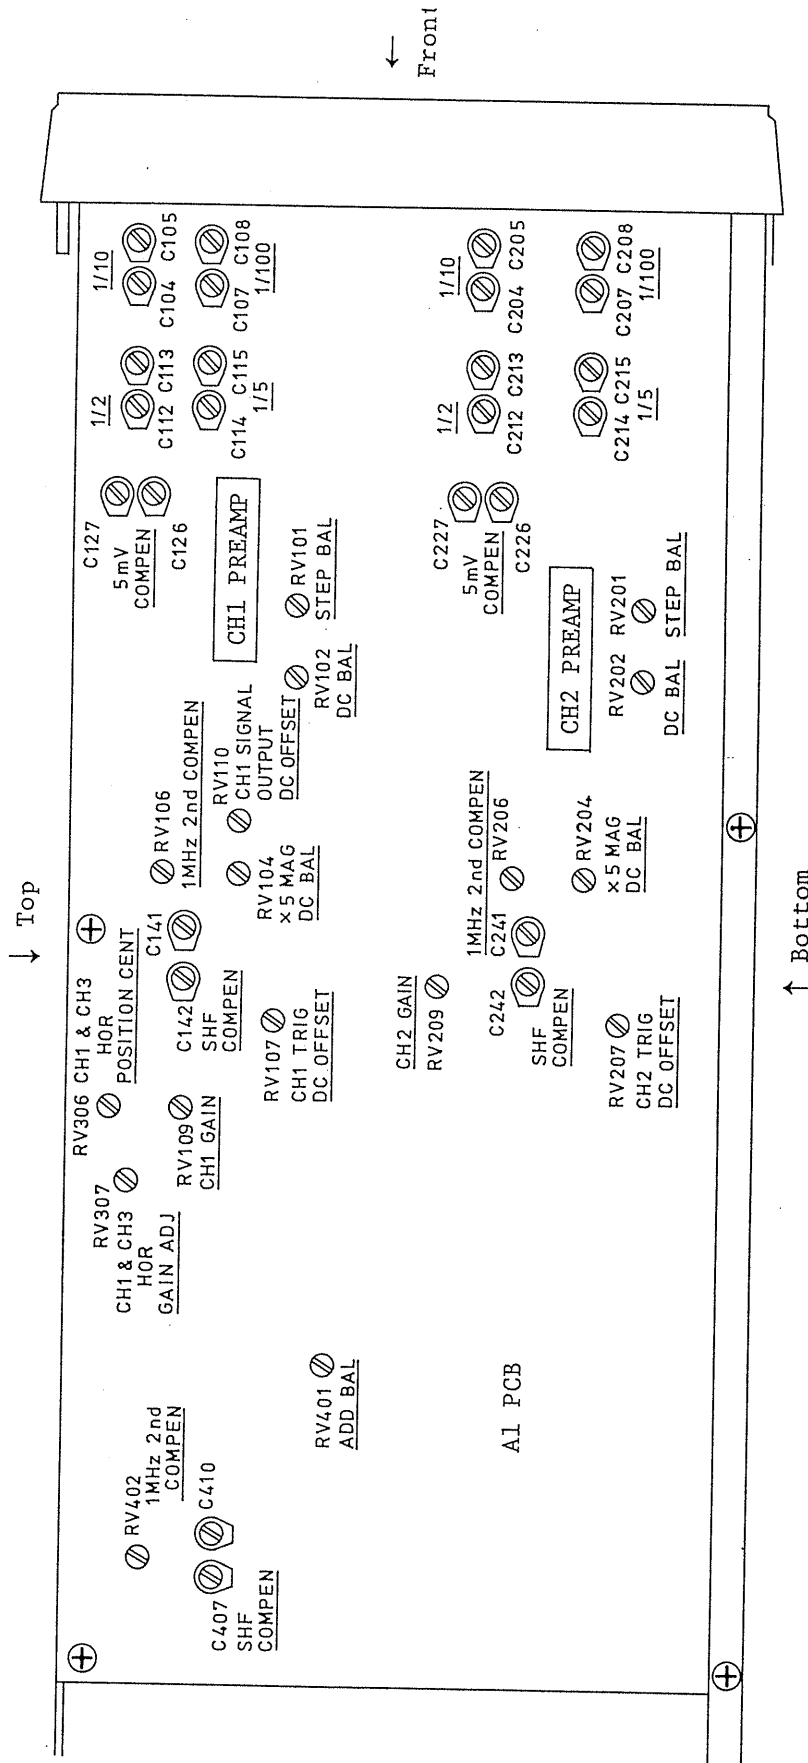

Figure 7-11 (left hand side view)
- (1) Apply the CH1 signal output to the CH2 input terminal.
- (2) Display the CH2 input signal on the screen and set the VOLTS/DIV switch at the 10 mV range.
- (3) Changing the CH2 input coupling switch between GND and DC, so adjust the CH1 SIGNAL OUTPUT DC OFFSET control RV110 (Figure 7-11) that shift of the trace becomes zero.
- (1) Apply a sinusoidal signal of approximately 1 kHz to the CH1 input terminal and set the AC-GND-DC switch at AC.
- (2) Set the VERT MODE switch at CH1, set the INT TRIG switch at CH1 or ALT, and display the signal with an amplitude of 8 DIV on the screen.
- (3) Set the COUPLING switch at AC and so adjust the LEVEL knob that the trigger point is brought to the center of the displayed waveform amplitude.
- (4) Change the COUPLING switch to DC and so adjust the CH1 TRIG DC OFFSET (Figure 7-11, RV107) that the trigger point is brought to the center of the displayed waveform amplitude.
For this adjustment, adjust CH2 TRIG DC OFFSET (Figure 7-11, RV207) in a similar manner as is the case for "Adjustment of CH1 TRIG DC OFFSET."
- (1) Set at 100 mVp-p the output of the signal generator used for "Calibration of sensitivity" of section 7.5, and apply the output to the CH1 (X-axis) input terminal.
- (2) Set the VERT MODE switch (26) in the X-Y state. Set the AC-GND-DC switch (13) of CH2 (Y-axis) at GND.
- (3) Set the VARIABLE knob (22) at CAL'D and the VOLTS/DIV switch (23) at 10 mV.
- (4) So adjust the CH1 & CH3 HOR GAIN (Figure 7-11, RV307) that the trace length becomes 10 DIV.
- (1) Set the VERT MODE switch (26) at CH1 and the AC-GND-DC switches (13) and (20) at GND.
- (2) Move the trace to the center of the screen with the POSITION control knob (24).
- (3) Next, turn the VERT MODE switch (26) to the X-Y position, and so adjust the CH1 & CH3 HOR POSITION CENT control (Figure 7-11, RV306) that the spot is placed in the center from the right and left ends.